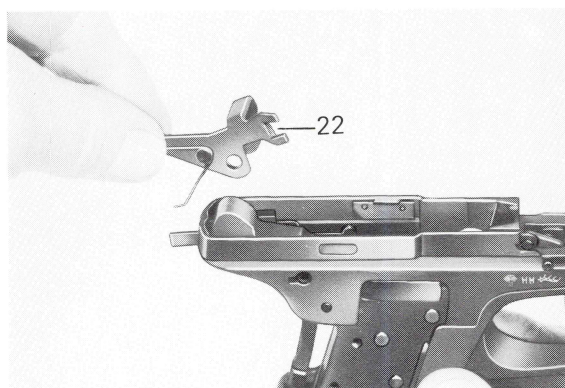

Fig. 44
- Fit the disconnecter (22) with its spring (Fig. 44) over the centrally positioned hammer and indicator pin, making sure that the trigger bar comes to rest between the short jaws of the disconnecter.